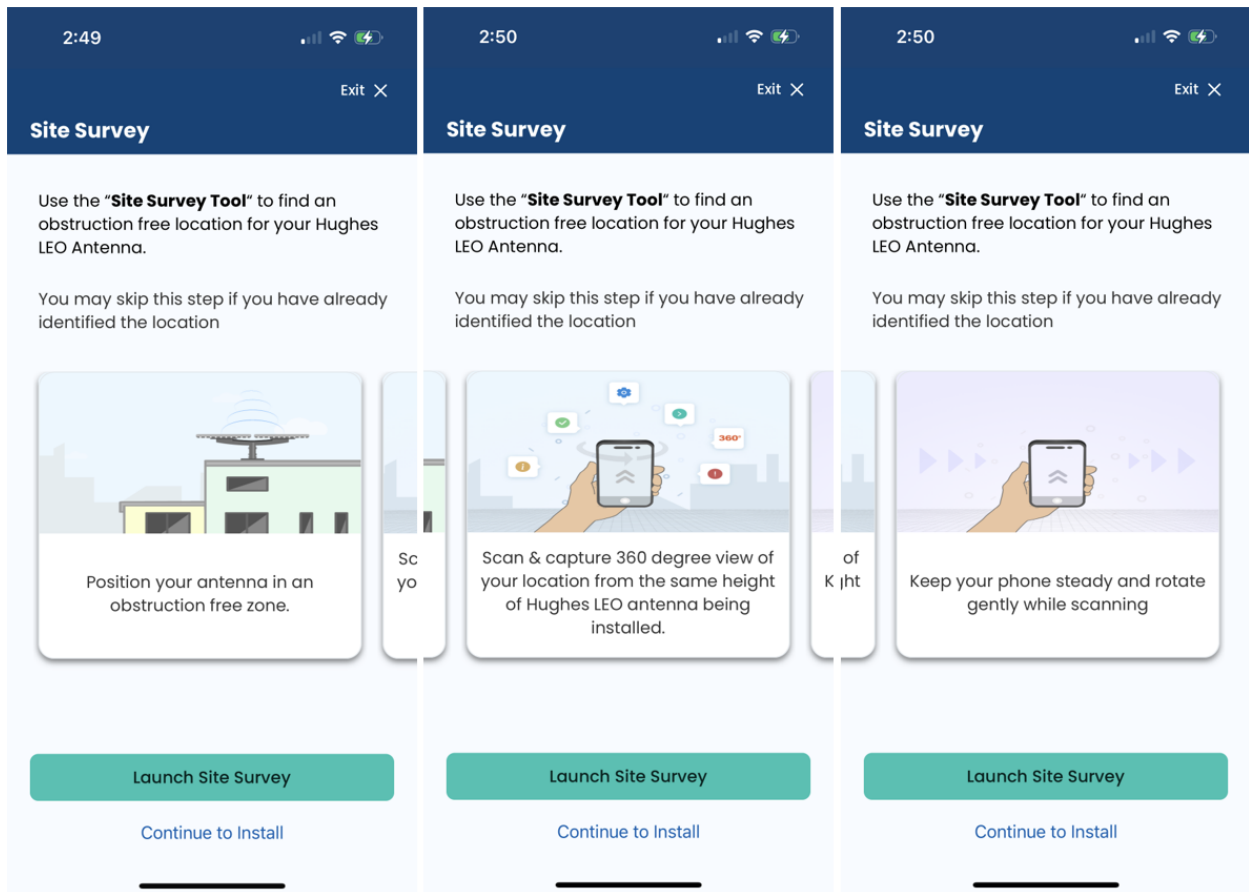

Figure 75: Launching a site survey
2. Navigate to the site survey screen of the app (shown in Figure 75), read the instructions by scrolling through the pages, and then click **Site Survey**.